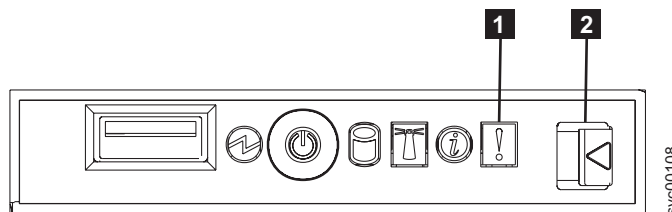

Figure 66. Operator information panel
4. Press the operator panel release latch **2** and slide the operator information panel away from the SAN Volume Controller 2145-8F2. See Figure 66.